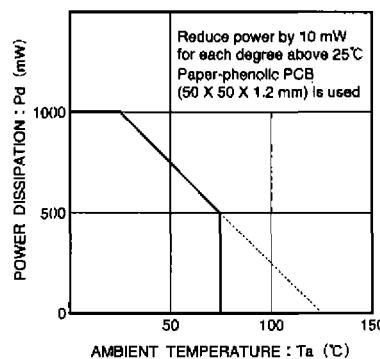

Fig.9 Power dissipation curve (BA6238AN/BA6239AN)
*2 Refer to the power dissipation characteristics (Fig. 9) for details.